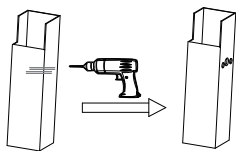

Figure 3
1. Use an electric drill to make holes on poles or suspended walls. (The hole pitch should be in accordance with the type of product application; the hole size should be the same size as the screw that the user has.) (Figure 3)